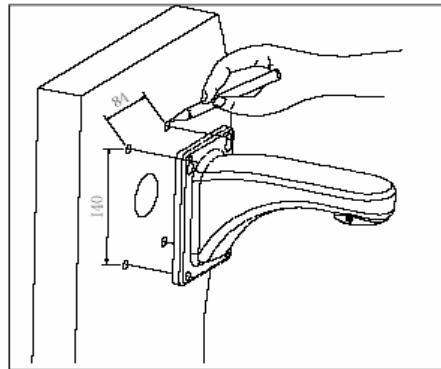

Fig 2
- As shown in fig 2, with the installation holes in the underside of the wall hanging bracket as pattern, draw punched locations and punch.